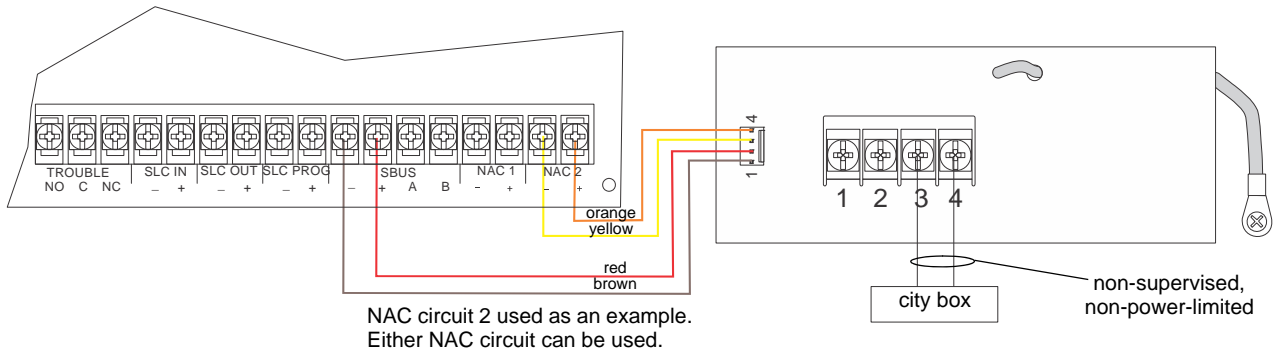

Figure 4.39 City Box Connection
2. Wire the 5220 to the control panel as shown in Figure 4.39. This drawing also shows how to connect the city box coil to terminals 3 and 4 on the 5220. Do not install an EOL resistor in the terminals of the NAC circuit used for this application.